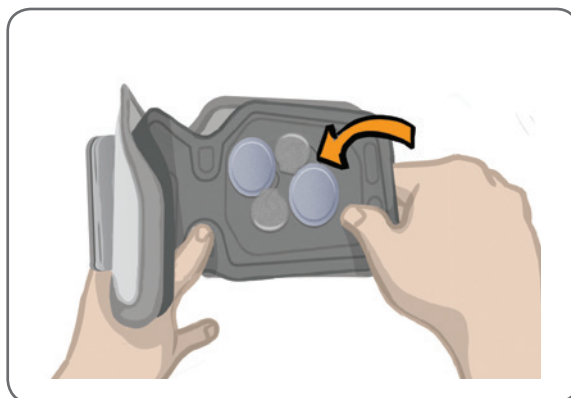

Figure 6-5: Personal Panel Being Removed
1. Remove the Personal Panel from the lower leg FS Cuff. See Figure 6-5.